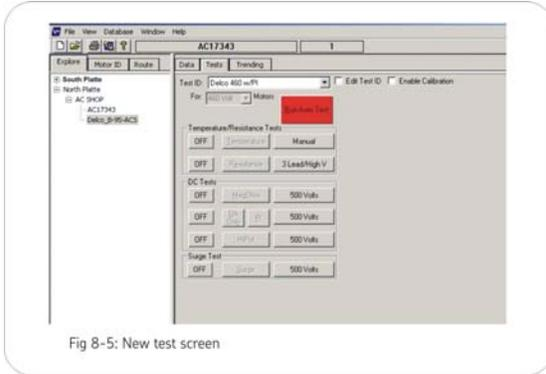

Fig 8-5: New test screen
- 8) The new Test ID will be displayed and all tests are turned off. The Test view will resemble Fig 8.5.